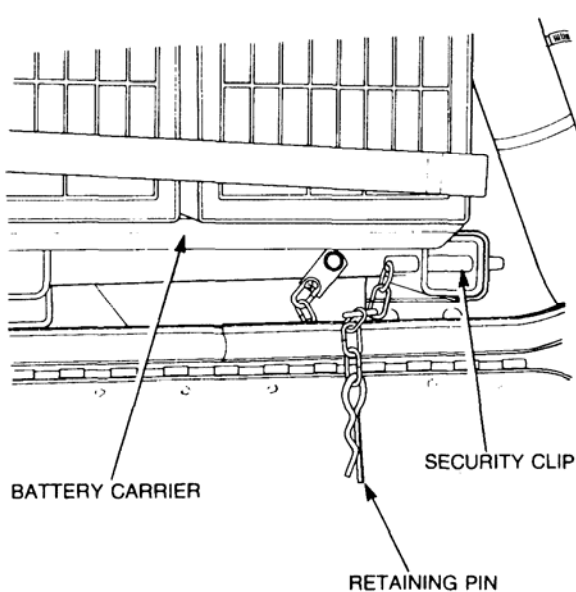

Figure 6 Left Side Battery Compartment
- b. Remove the security clip and pin from the left hand battery carrier (refer Figure 6).